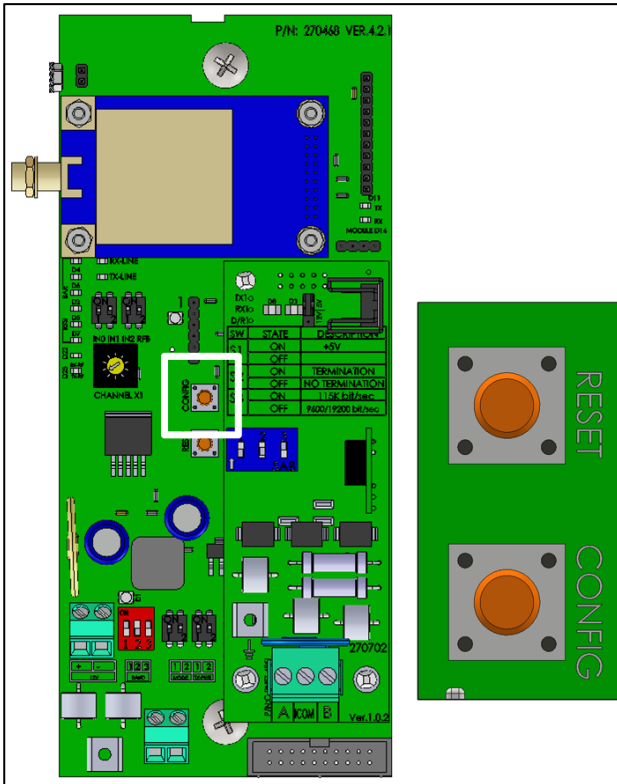

Figure 24: Configuration Button
4. Press **Config** for five seconds (Figure 24). This generates a test signal. The green LED begins to blink.